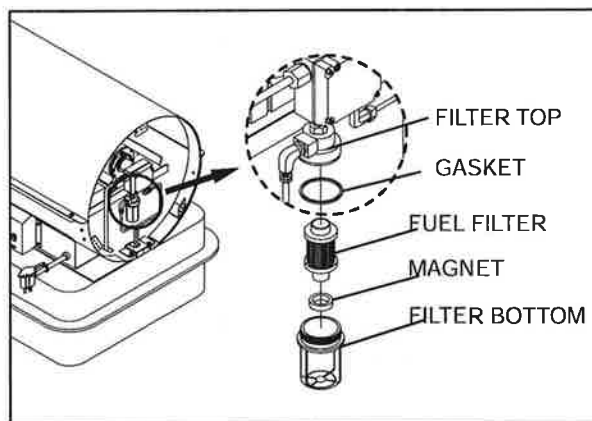

Figure 15. Fuel Pump Filter
- Remove fuel filter, gasket, magnet from filter bottom. (See Figure 15)